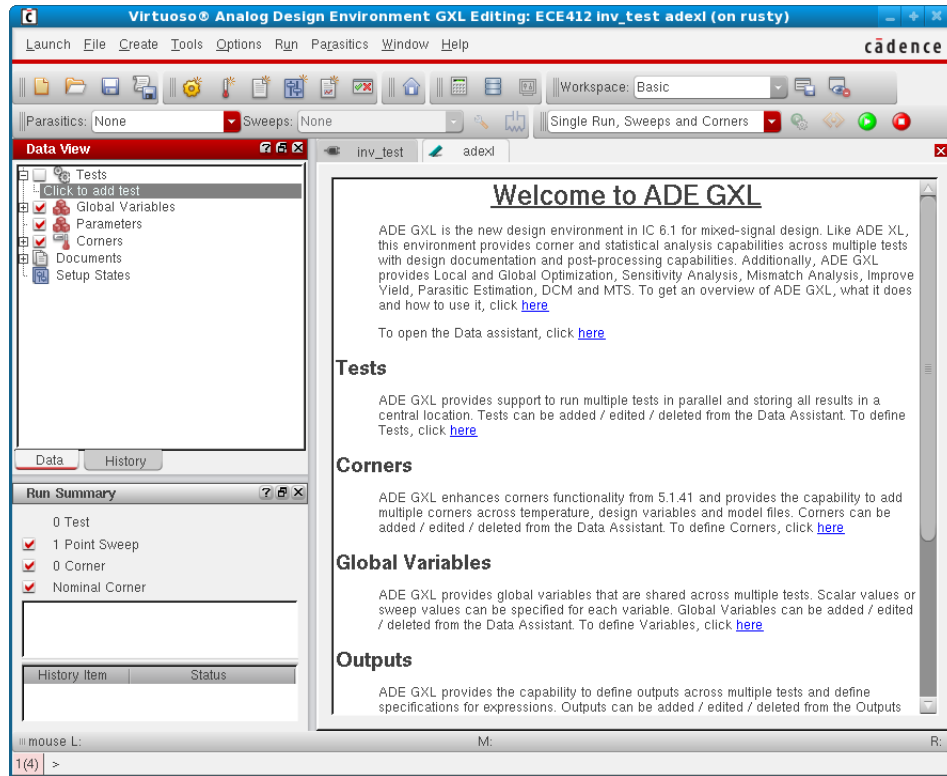

Figure 10: ADE Default Window
3. A new tab titled Welcome to ADE GXL will appear, by default the left menu should contain "Data View" as depicted in figure 10